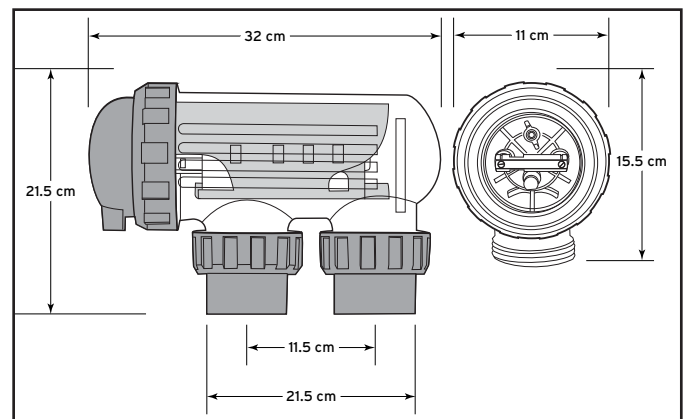
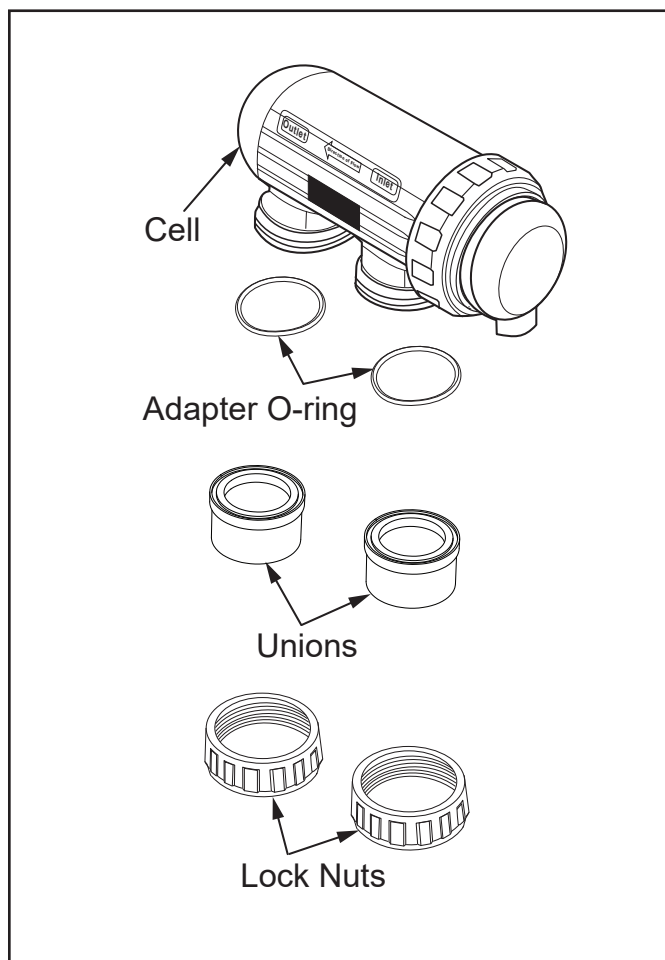

Figure 2. Electrolytic Cell Dimensions
Figure 4. Cell Plumbing Assembly
2. Plumb the cell inlet and outlet on vertical lengths PVC pipe. The cell inlet and outlet ports are 11.5 cm apart, see Figure 2. The inlet of the cell is on the side closest to the electrical lead, see Figure 4.
3. Put the lock nuts onto the inlet and outlet pipes in the correct orientation, see Figure 4.